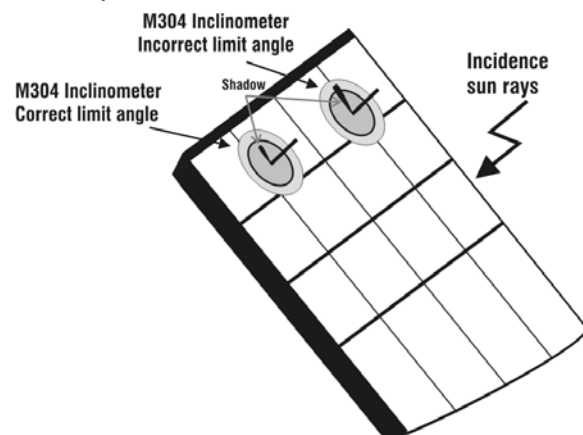

Fig. 12b: Positioning inclinometer M304
11. Mount the M304 (inclinometer) supplied accessory, position and hold it on the plane of module. **Verify that the sun shadow falls on the disc within the "limit internal circle" on the disc itself (Fig.12b).** If this is not the case the incidence angle between sun rays and the module surface is too high and not complying with the test conditions declared by the module manufacturer. As a consequence the measurements performed by the meter are not ok and all measurements steps shall be repeated at another daytime.